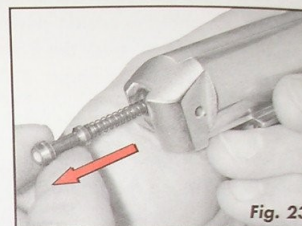

Fig. 23
9. Remove the firing pin and firing pin spring from the bolt (Fig. 23).
7. Insert the firing pin and the firing pin spring inside the bolt (Fig. 23).